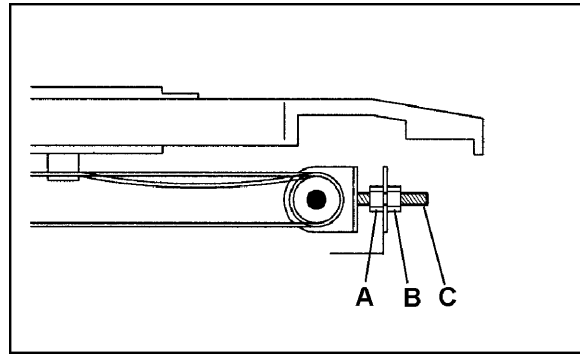

Figure 13
2. Loosen one of the hex nuts (A, B, Figure 13) and turn the socket screw (C, Figure 13) with a hex wrench as needed.
3. After getting the desired tension, tighten the hex nuts (A, B, Figure 13) against the plate.